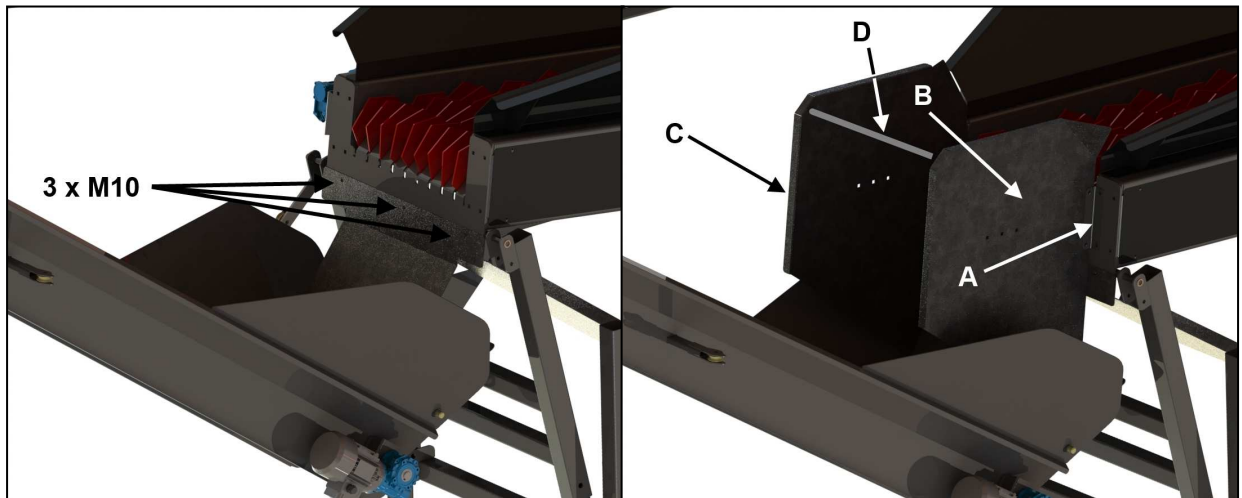

Figure 6.
- ❑ Attach the lower log guide on top of the conveyor using three M10 hex screws (Figure 6.).